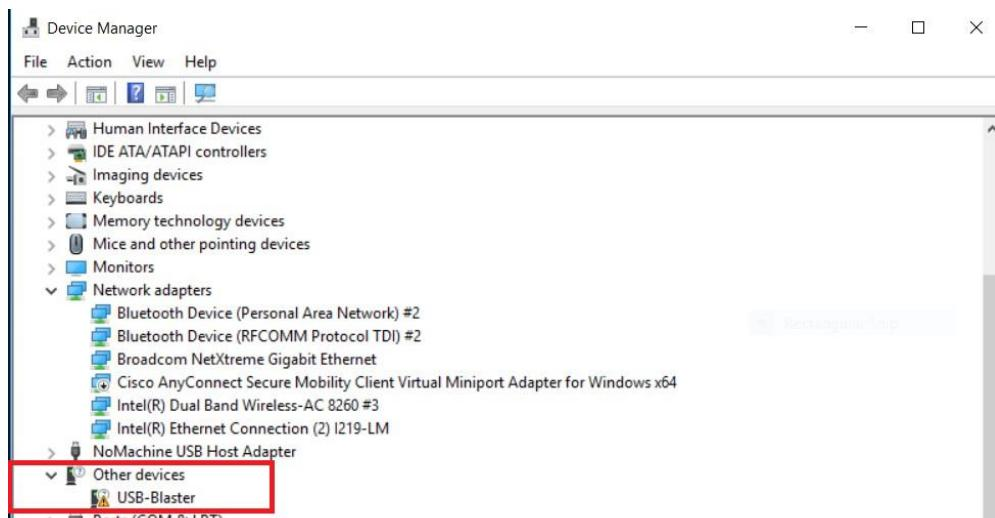

Figure 39: Device Manager Showing USB Blaster Drivers not Installed
- a. Figure 39 depicts what the Device Manager will look like when the USB Blaster Drivers are not installed.